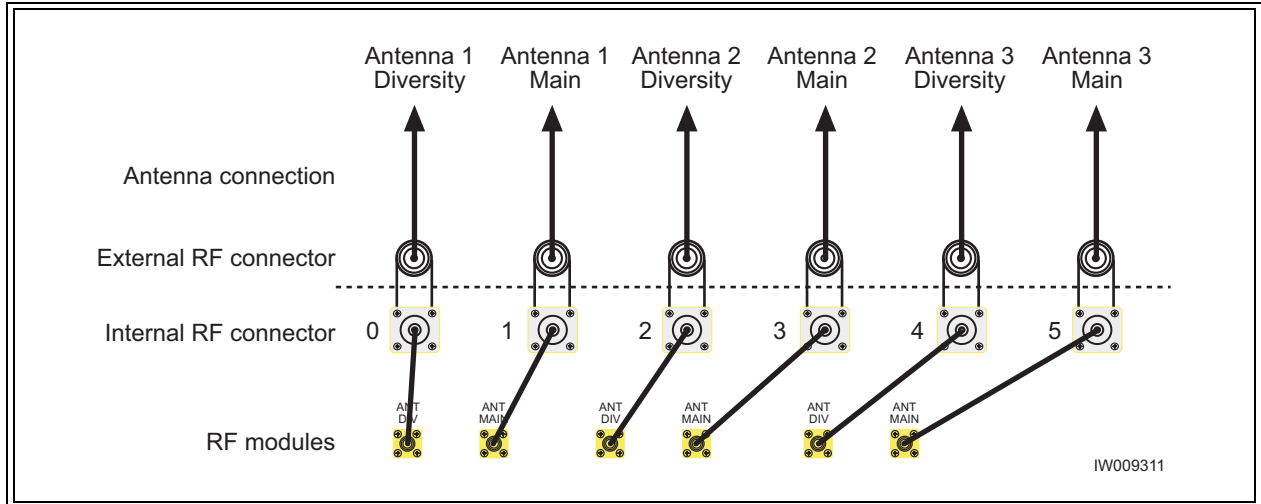

Figure 2-25 Antenna Cabling for S221 Configuration
- Connect your antennas as shown in Figure 2-25.